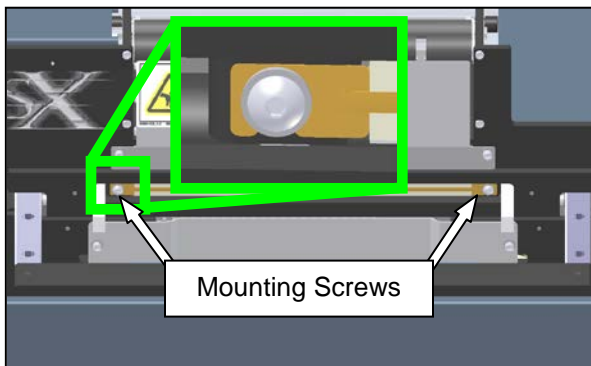

Figure 3-341. Seal Wire Mounting Screws
- Reinstall the seal wire changing tools to compress the tension springs, and reinstall the seal wire. Be sure the orientation is such that the open ends of the seal wire are to the bottom of the machine (Figure 3-341).